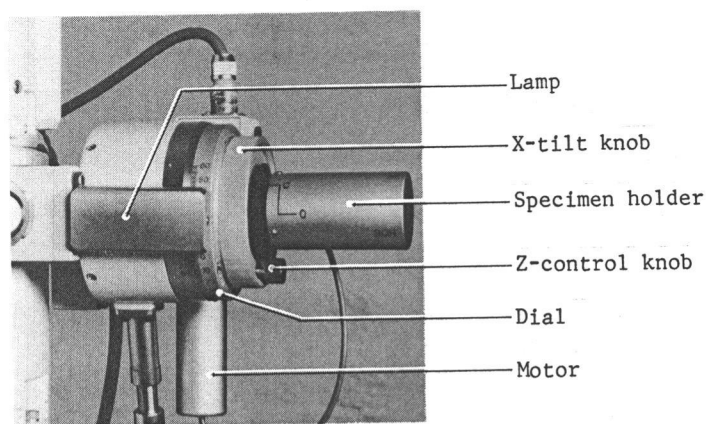
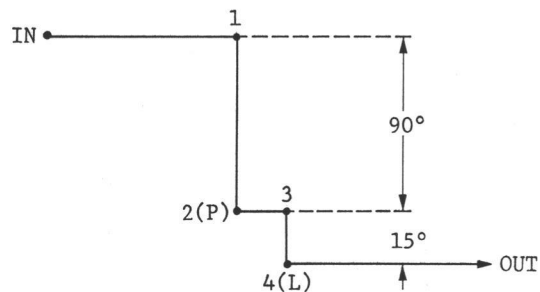

Fig. 1
Fig. 2
- 2b. Set the X-tilt knob dial (Fig. 1) to 0.
4. Pull the specimen holder (IN \rightarrow 1, Fig. 2), turn it counterclockwise (1 \rightarrow 2, 90°), pull it again (2 \rightarrow 3), turn it again counterclockwise (3 \rightarrow 4, 15°), and wait for 5 or 6 seconds, as shown in Fig. 4.11-9. Air enters the goniometer.
5. Slowly pull out the specimen holder (4 \rightarrow OUT, Fig. 2).
4. Make sure that there is no dust, fluff, etc., on the O-ring of the specimen holder, insert the specimen holder (OUT \rightarrow 4, Fig. 2) in the goniometer (Fig. 1), slowly turn the holder clockwise (4 \rightarrow 3, 15°), and fully insert it in the goniometer (3 \rightarrow 2). The solenoid valve opens with a click and goniometer evacuation commences.